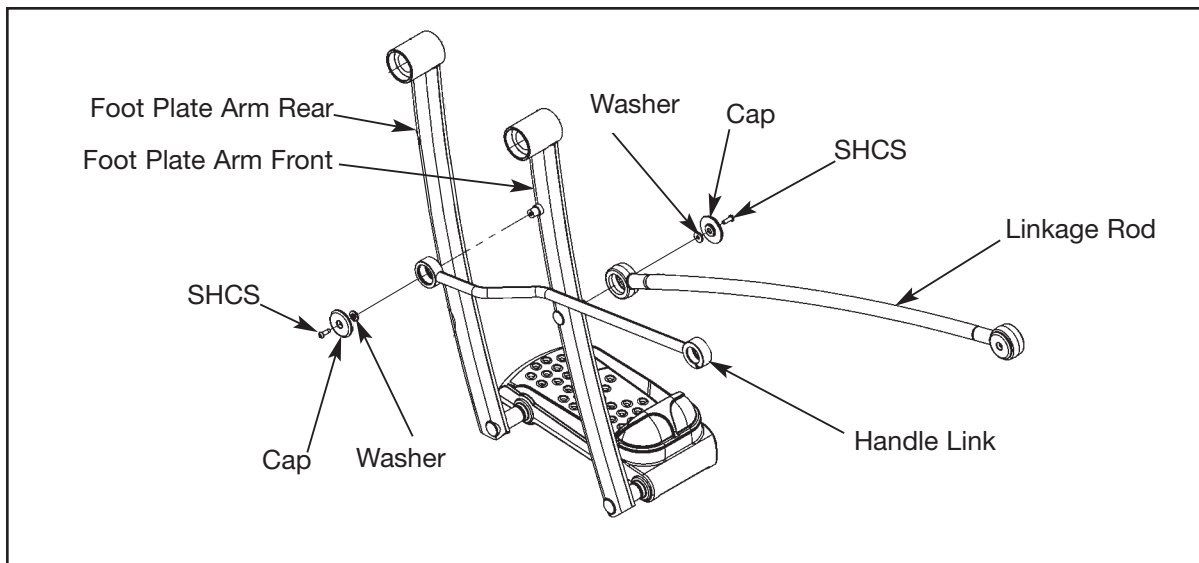

Figure 24
- A. Using a Phillips head screwdriver or 3/16" Allen wrench, remove each screw securing the (appropriate) cap. See Figure 24.
- C. Using a Phillips head screwdriver or 3/16" Allen wrench, attach handle link with the (appropriate) screw securing the cap. See Figure 24.